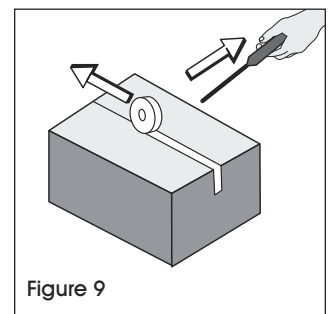

Figure 9
10. Seal the box. (See Figure 9)